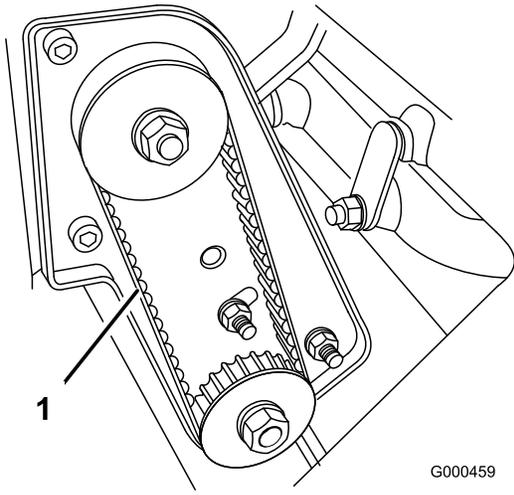

Figure 41
2. Check tension by depressing belt (Figure 41) at mid span of pulleys with 4 ± 1 lb. of force. Belt should deflect $3/16$ to $5/16$ inch (4.8 to 7.9 mm). If the deflection is incorrect, proceed to next step.